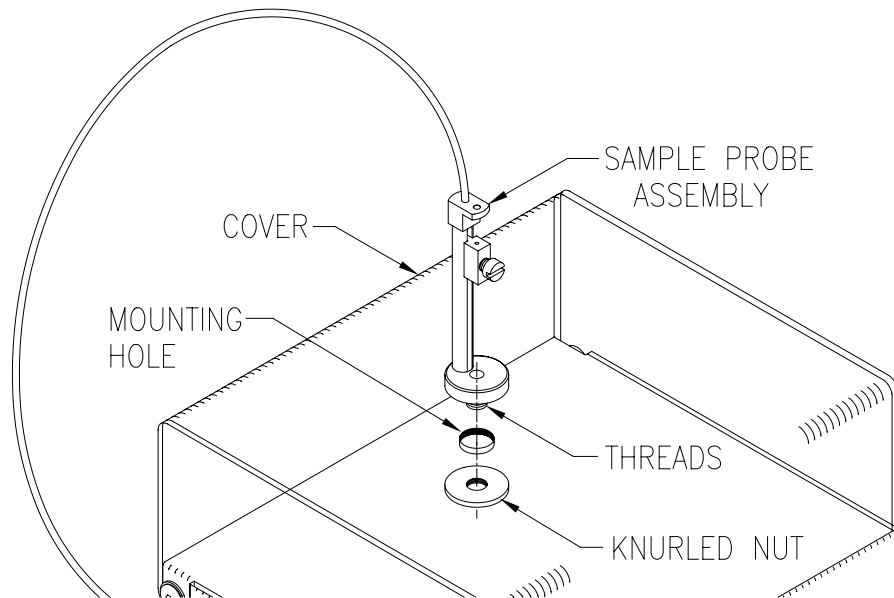

Figure 3-1. Attaching the Sample Probe Assembly.
Mounting the sample probe assembly on the auto sampler is the first major task in assembling the ASX-100. The sample probe assembly must be attached to the auto sampler cover to correctly position the sample probe in relationship to the tray and sample rack. Figure 3-1 illustrates the sample probe assembly components.
- 1 Mount the sample probe assembly on the cover with the Z-axis slider pointing forward (Figure 3-1).**